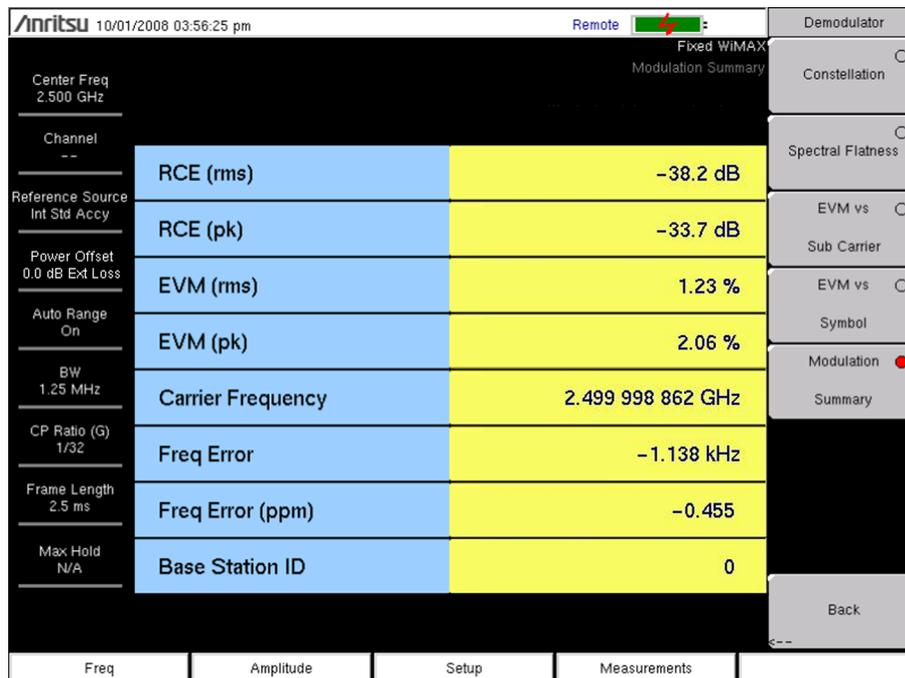

Figure 2-9. Fixed WiMAX Modulation Summary
4. Press the Modulation Summary submenu key to activate the measurement. The sample image in Figure 2-9 may differ from any image on your instrument.